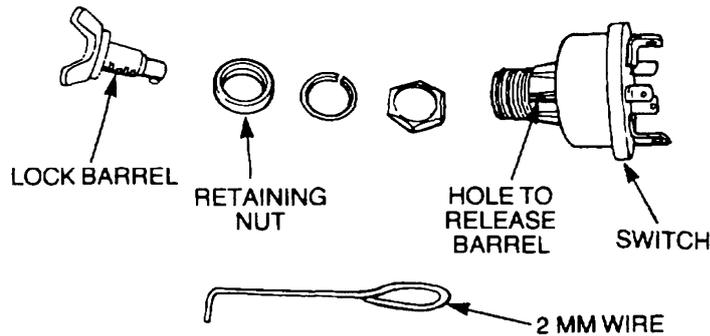

Figure 195 Ignition Switch Exploded View
- f. Using a length of 2 mm thick wire, insert the wire in the hole located in the lower part of the switch (Figure 195), depress the lock barrel plunger and withdraw the lock barrel.